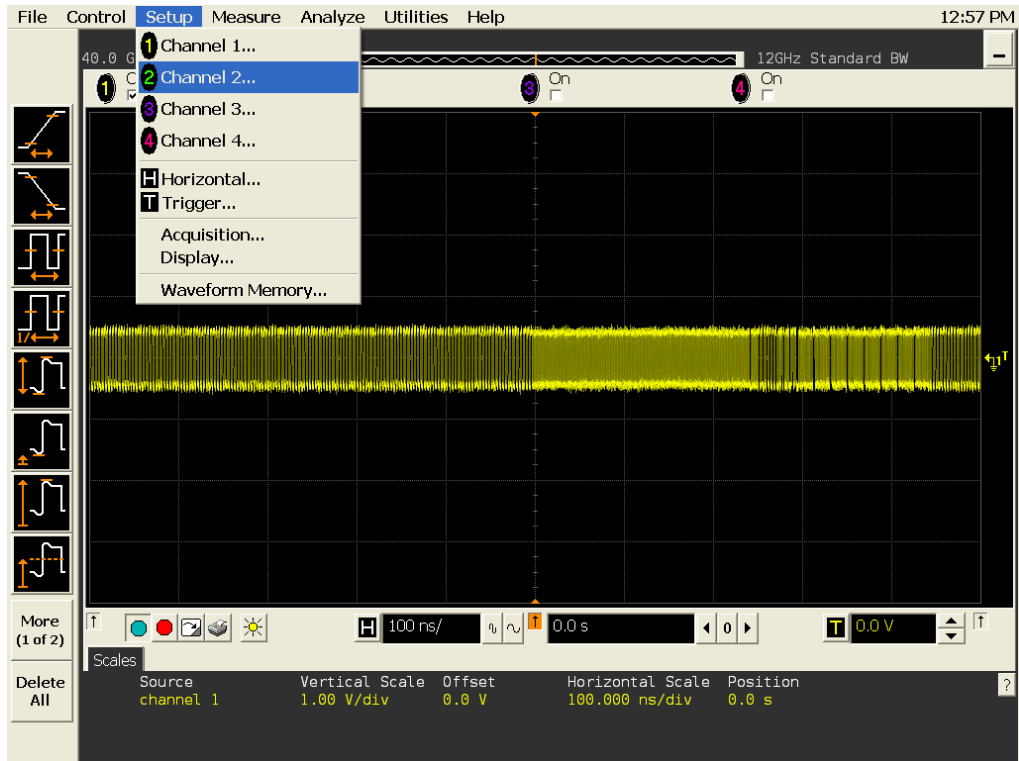

Figure 47 Channel Setup Window.
- 1 Referring to Figure 47 below, perform the following steps: